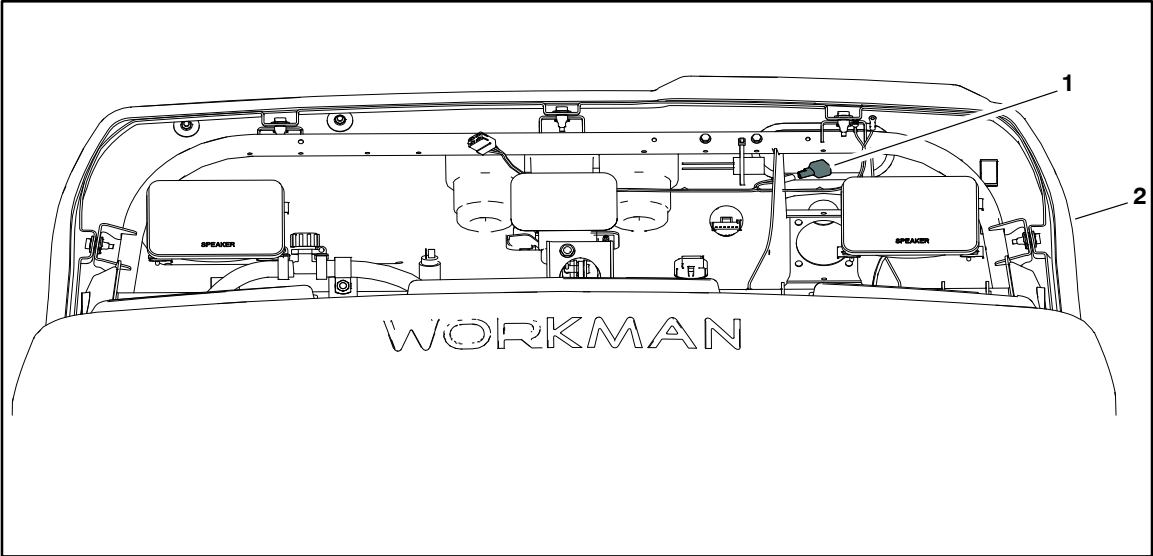
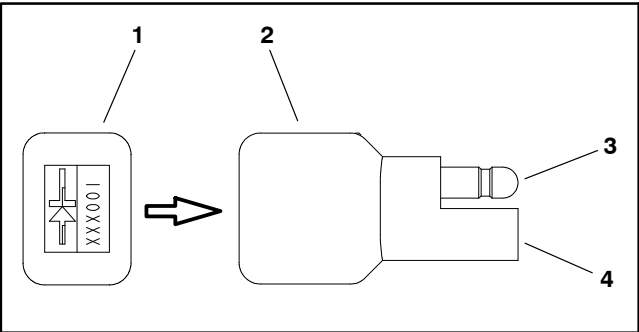

Figure 50
Figure 51
The electrical system of the HD Workman (Machines with Operator Cab) includes a diode. The maximum current allowed through a diode is 6 A. The diode assembly can be identified by a black color, diode symbol, and Toro Part Number on the end of the diode assembly body (Figure 51). The diode plugs into the heater kit wire harness near the dash panel (Figure 50); refer to the Heater Kit Wire Harness Drawing/Diagram in Chapter 11–Electrical Drawings .
4. The diode (Figure 51) can be tested by using a digital multimeter (diode test or ohms setting) and the Diode Test Table shown below: